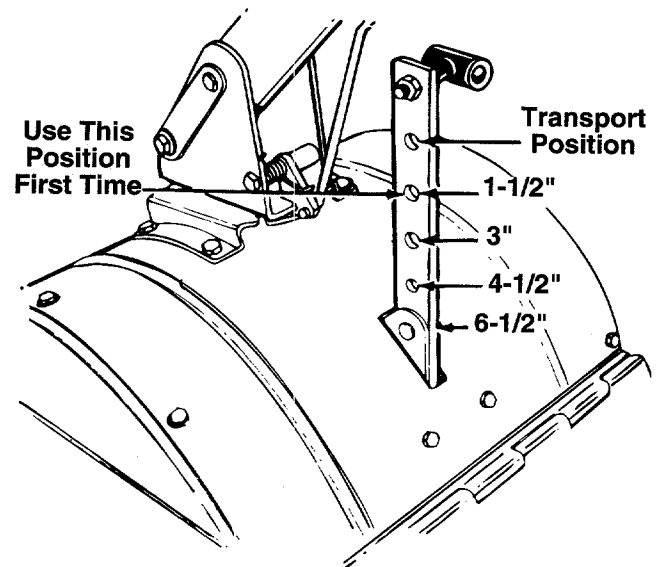
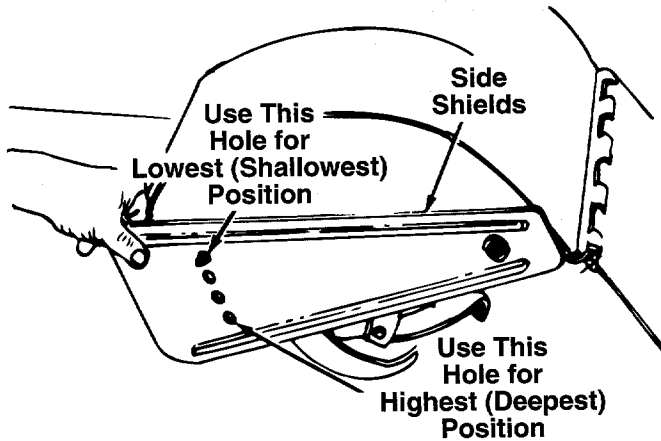

FIGURE 18.
FIGURE 19.
WARNING: When operating the tiller for the first time, use the depth bar setting that gives 1-1/2 inches of tilling depth (second hole from the top). Refer to figure 18.
Tilling depth is controlled by the depth bar which can be adjusted to five different settings. See figure 18. Adjust the side shields as shown in figure 19, as you adjust the depth bar. Be certain spark plug wire is disconnected and grounded against the engine.
1. When using the tiller for the first time, use the second adjustment hole from the top (1-1/2" of tilling depth). See figure 18.
To adjust the depth bar, remove the clevis pin and hairpin clip. See figure 18. Move the depth bar to the desired setting.
To adjust the side shields, remove the hex nut and Belleville washer from the front and loosen the rear nut. See figure 19. Pivot the side shield to the desired position. Replace hex nut and Belleville washer. Tighten securely.